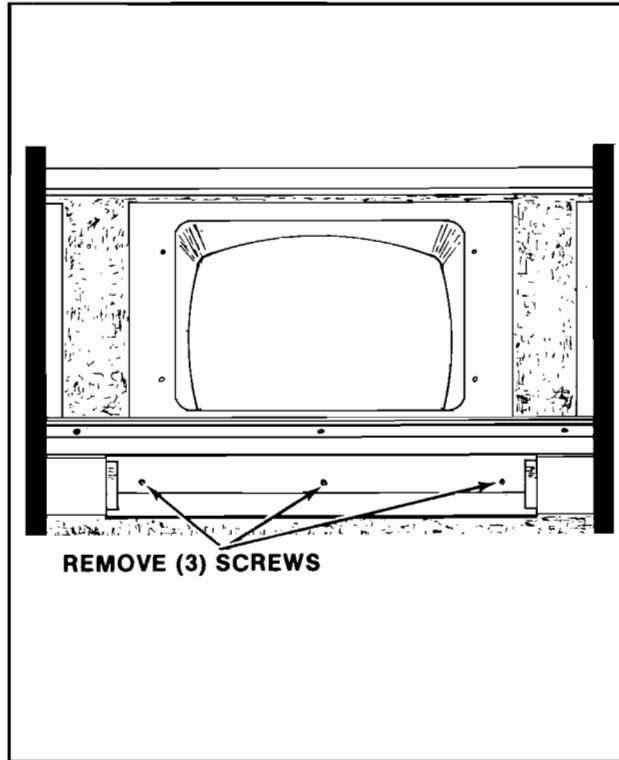

Figure 4-18 Removing Black Light Tube Mtg. Brkt. — Upright
- Remove the screws which secure the black light tube mounting bracket to the cabinet. See Figure 4-18.